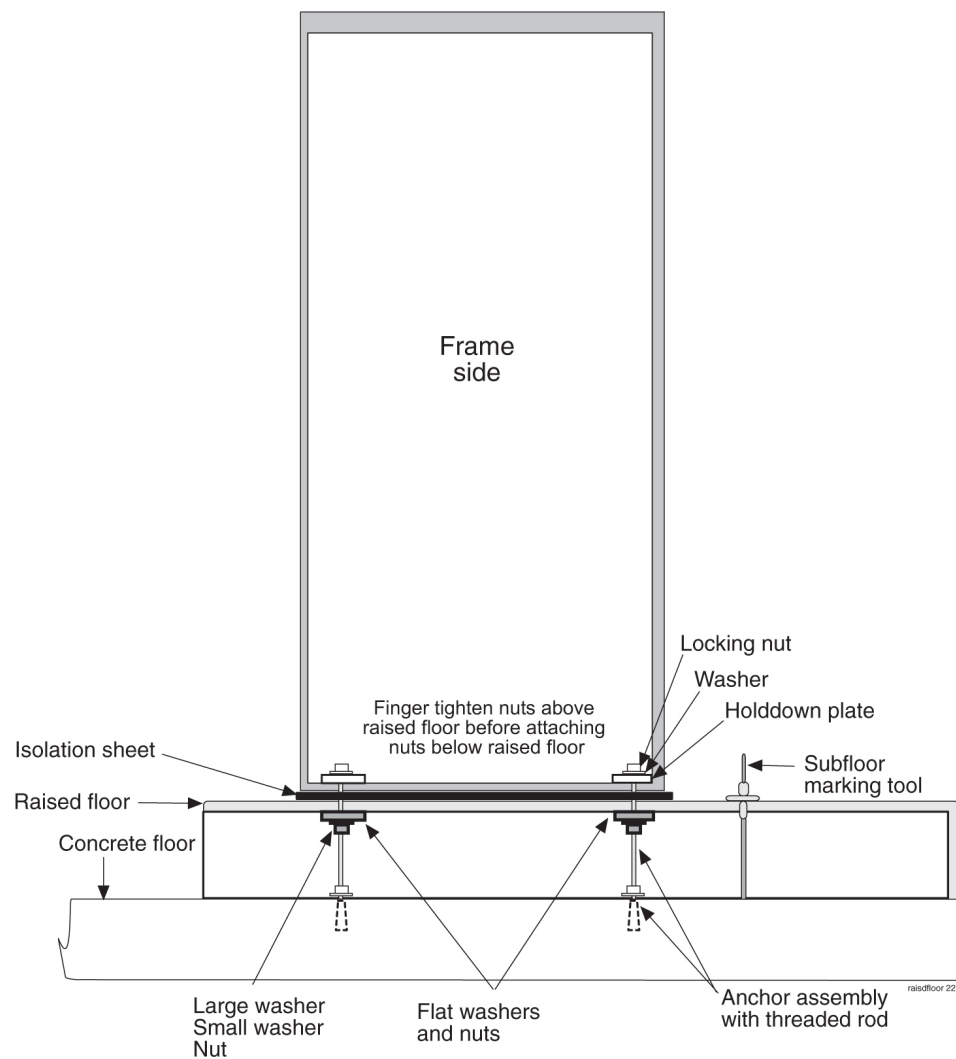

Figure 17: Raised Floor Installation Elements
3. Install a flat washer and nut onto the anchor assembly, as shown in Figure 17: Raised Floor Installation Elements.